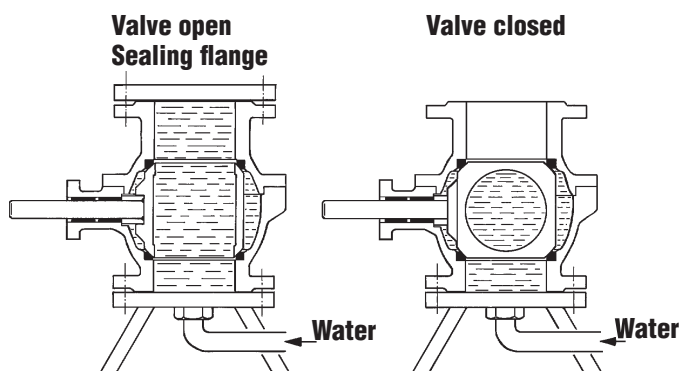

Fig. 5. Pressure test of the valve with water
12. If possible, pressure test the valve with water to check its tightness - Fig. 5. **Make sure that the cavities of the valve are properly filled** with water before the pressure testing. The valve should be pressure tested as follows: